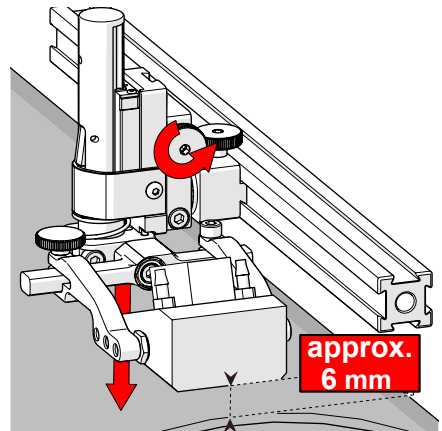

Fig. 107 - Lower toward scan surface
2. Loosen the vertical adjustment knob and slide the probe holder down until the wedge is approximately 6 mm ($\frac{1}{4}$ in) above inspection surface (Fig. 107).